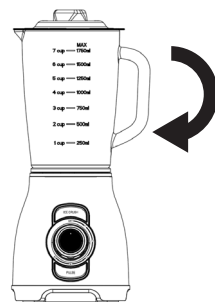

Fig. 5
- 3) Finally, place the assembled jar onto the motor unit by aligning the strip on the assembled jar bottom. (See Fig.5)